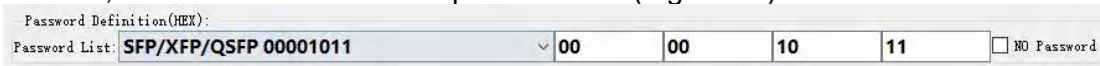

Figure 70
4.1 Select the configuration file “SFP/XFP/QSFP 00001011” corresponding to the QSFP-DD 400G DR4 password of “00001011” (Figure 70)